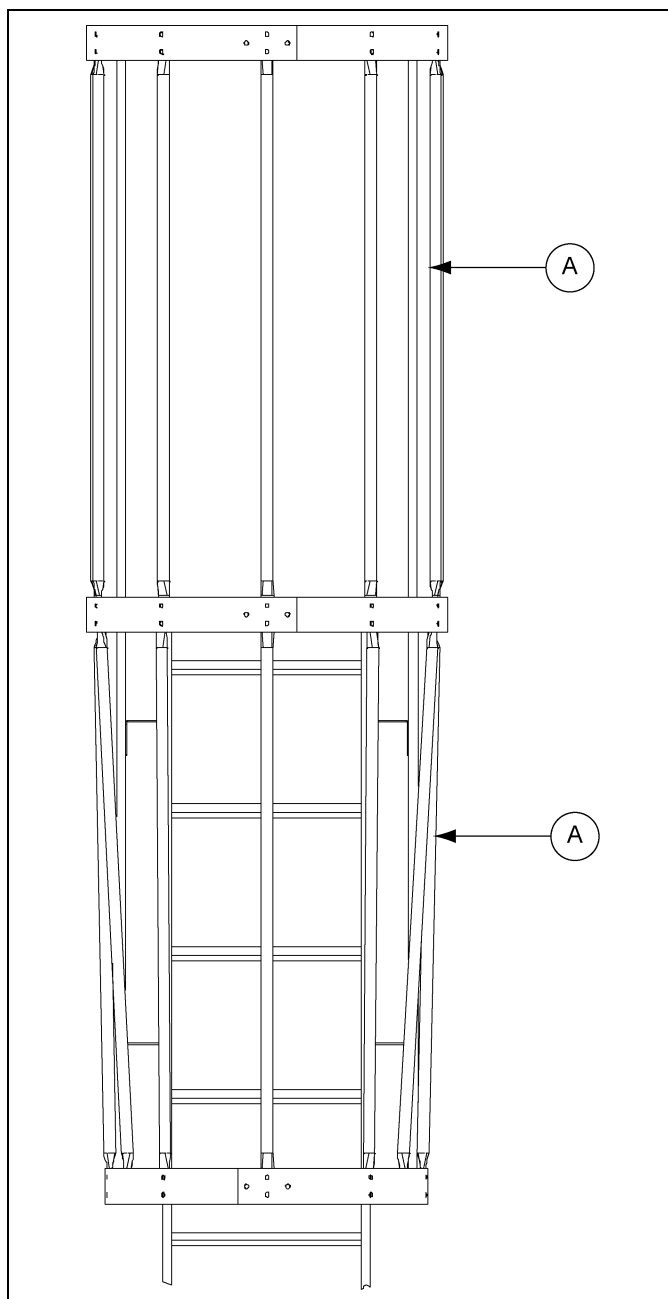

Figure 9F
After all three (3) hoop assemblies are in place, attach the 48" vertical supports from hoop assembly to hoop assembly as shown in Figure 9F. This requires fourteen (14) supports, seven (7) between each set of hoops. The second set of vertical supports must be bent at the flat area to allow for the tapering of the bottom hoop assembly. Use 5/16" x 3/4" bolts with the head of the bolt to the inside of the safety cage.